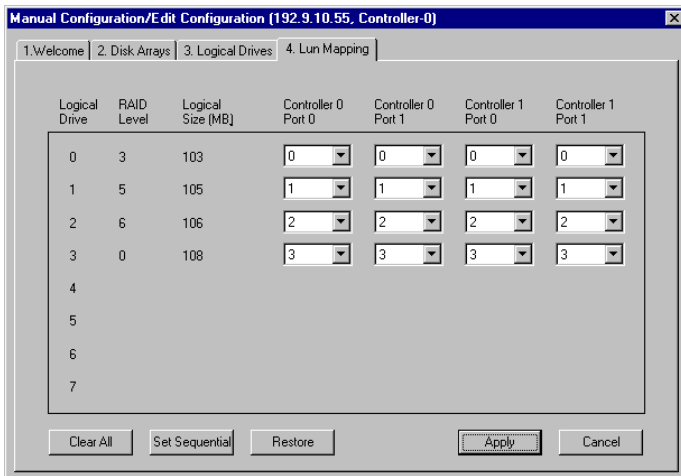

Figure 4-45. Select “LUN Mapping”
After configuring the desired number of logical drives on the Mylex External RAID Controller, click the LUN Mapping tab in Manual Configuration (Figure 4-45). (The Controller-Port columns are shown or not shown depending on the current controller configuration of host ports and duplex controllers.) By default these logical drives are made available to all existing host ports in the configuration. LUNs are assigned automatically in sequential order for each port.
- The **Set Sequential** button sets all LUN assignments sequentially on all available ports. This reproduces the default shown back in Figure 4-45.